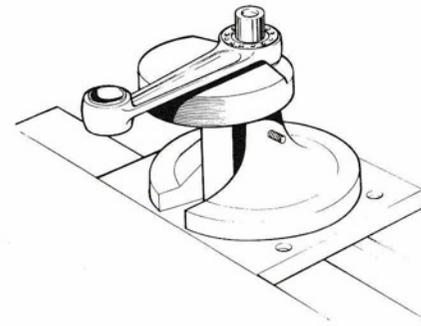

Fig. 18 Crankcheek and crankpin showing connecting rod and thrust washers in position.
Prior to dismantling, the crankcheeks should be marked across both rims (the marks can be seen in *Fig. 18*) to aid alignment during reassembly. The markings should be made with a steel rule and scribe. Proceed as follows:
- 3 Place one thrust washer in position over the crankpin (see *Fig. 18*).